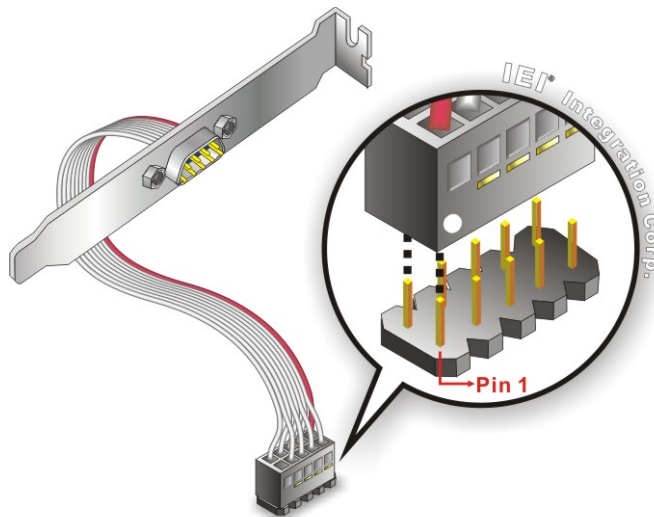

Figure 4-13: Single RS-232 Cable Installation
Step 2: **Insert the cable connector.** Align pin 1 on the on-board serial port pin header with pin 1 on the serial port connector. Pin 1 on the serial port connector is indicated with a white dot. Insert the connector into the serial port pin header. See Figure 4-13.